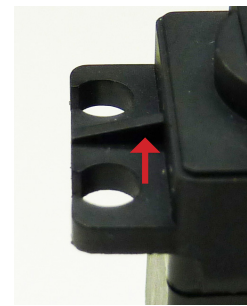

Figure 6 - Remove Ridges (2) from servo
- Use a utility knife to remove two vertical ridges from servo (Fig 6).